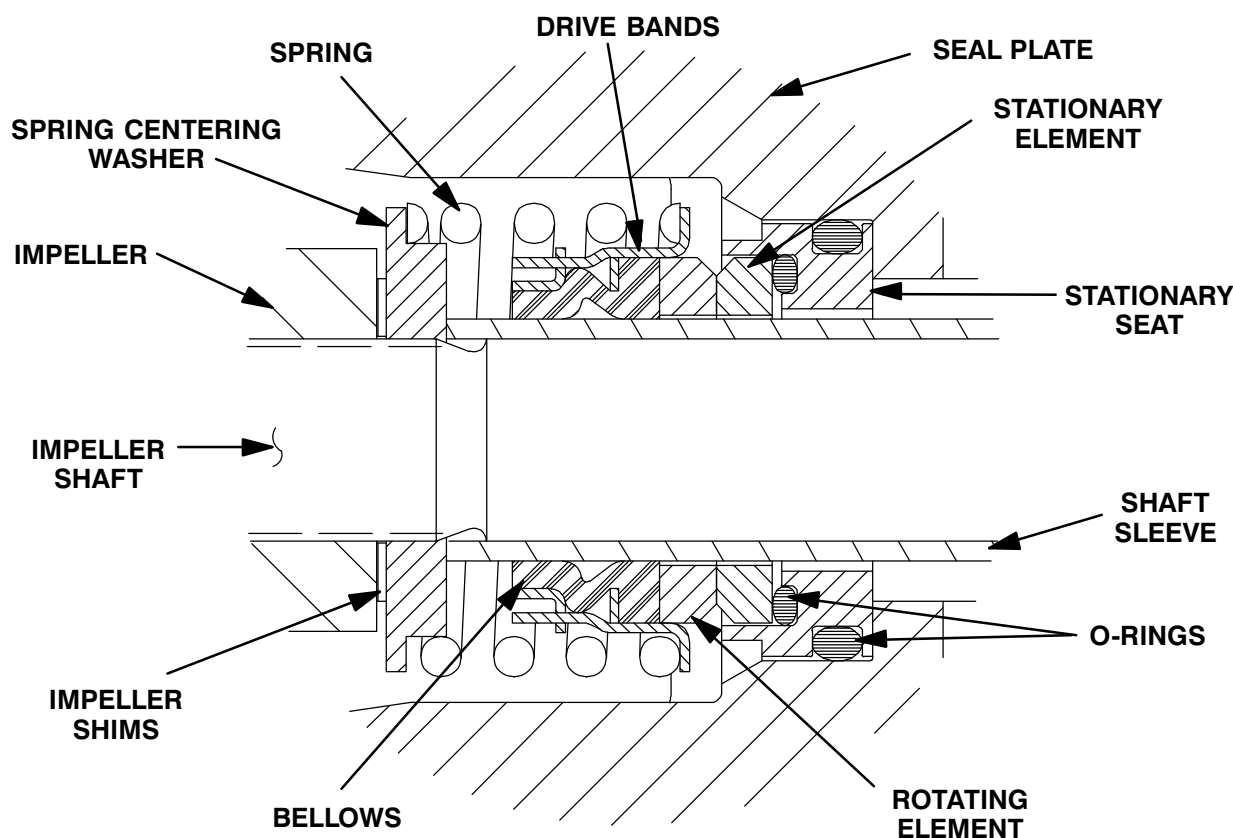

Figure 3. Seal Assembly
To ease installation of the seal, lubricate the O-rings and shaft sleeve (33) with water or a very **small** amount of oil, and apply a drop of light lubricating oil on the finished faces. Assemble the seal as follows, (see Figure 3).